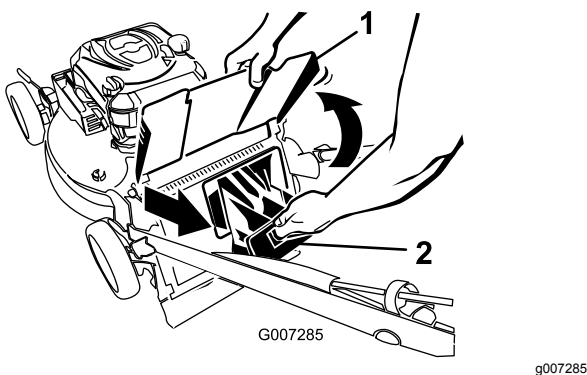

Figure 23
2. Raise and hold up the rear-discharge deflector (Figure 23).
3. Pull out the rear-discharge plug (Figure 23).
4. Install the rear-discharge plug (Figure 23).